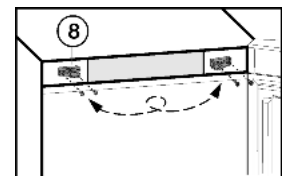

Fig. 14
- Unscrew bearing part Fig. 14 (8), turn it 180° and move it to the opposite side. Make preliminary holes (optional) or use a cordless screwdriver.